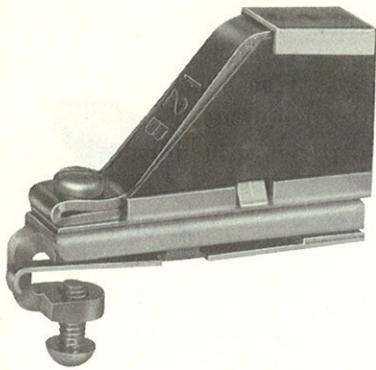

Fig. 12—12B Guard (MD)
12-Type Guard, MD (Fig. 12)
7.17 The 12-type guards are designed to protect special service lines appearing on frames that are equipped with 444A test jacks. The 12B guard (Fig. 12) is the same as the 12A guard, except that it is equipped with a locking screw for maximum security. The 12-type guards have metal frames and brown phenolic fiber sides. They are replaced by the KS-20353, List 1 guard.